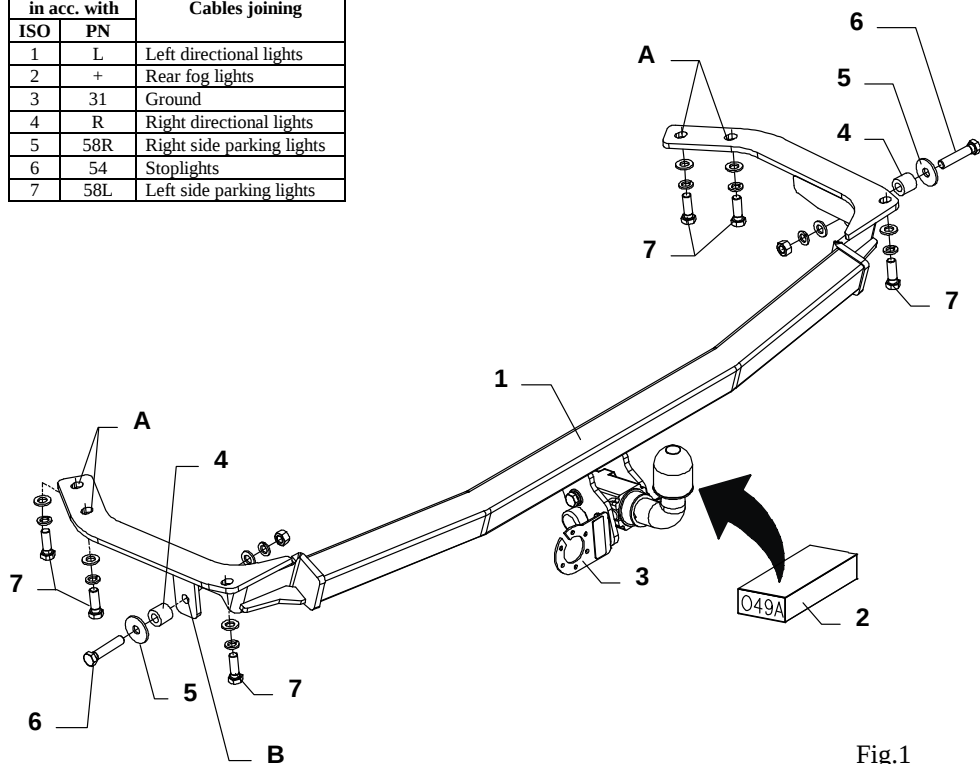

Fig.1
3. Apply the main bar of the towbar (pos. 1) to the automobile frame, that way so holes of the towbar (pos. A) be covered with factory-made threaded holes. Fix using bolts M12x1,25x35mm (pos. 7).
4. Through holes (pos. B) fix with factory-made holes. Use distance sleeves $\varnothing 25 \times 13 \text{ mm}$, L=23mm (pos. 4), washers $\varnothing 37 \times 13 \times 3 \text{ mm}$ (pos. 5) and bolts M12x60mm (pos. 6) as showed on the fig. 1.